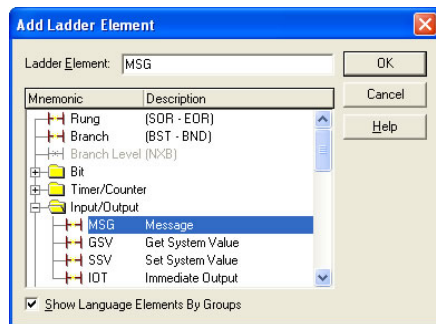

Figure 56: Adding a MSG Instruction
- Select the “MSG” instruction in the Input/Output folder. Refer to Figure 56.